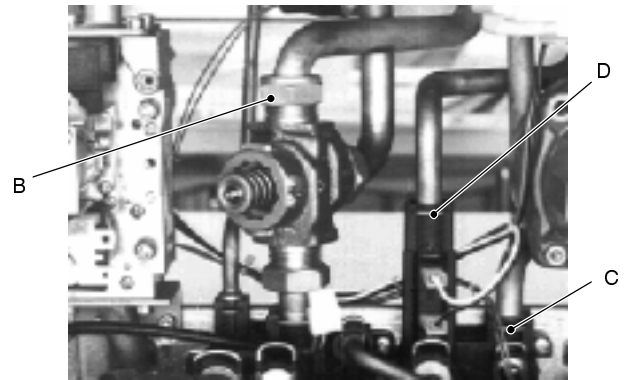

fig. 16
- 4 Completely unscrew the top pipe fitting B of the 3-way valve and remove the forks C and D (fig. 16);